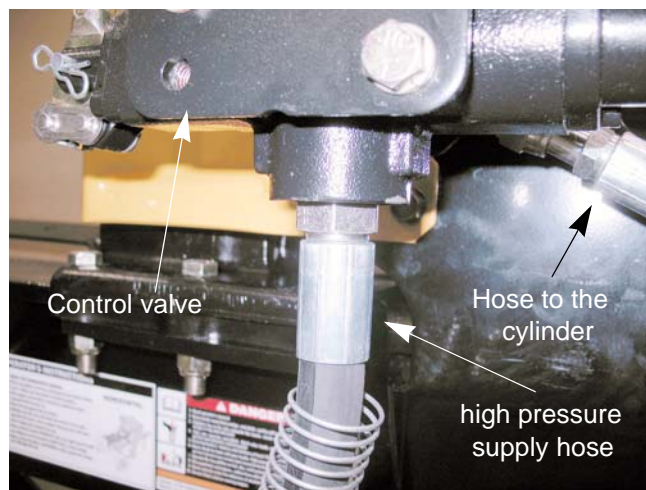

Figure 4.3
7. Disconnect the high pressure supply hose from the valve using a 15/16" wrench. See Figure 4.3.